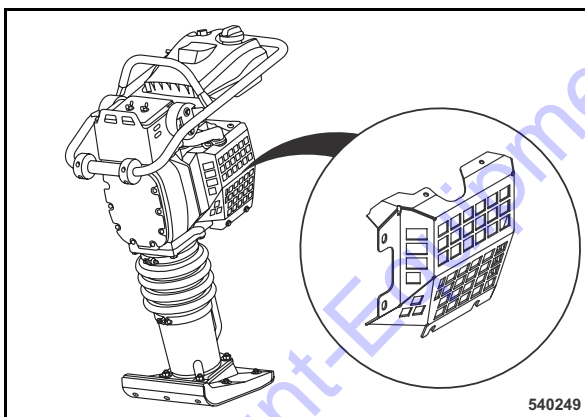

Fig. 60
- Remove the protection grid on the left hand side of the engine ((Fig. 60)).